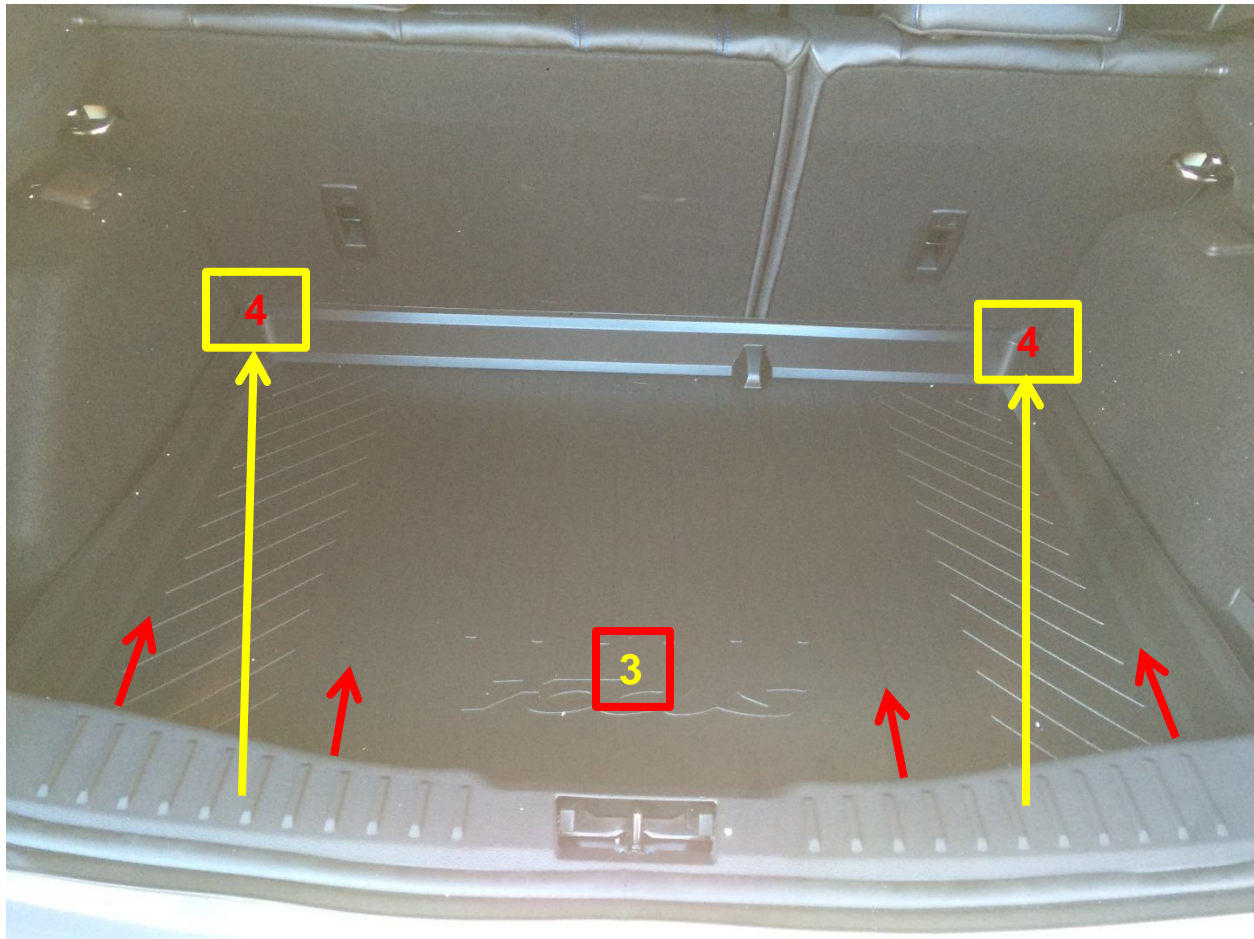

Figure 2
1. Gently pull the rear plastic trim away from the back bumper (See Figure 2) to release the 4 plastic studs (3). Pull the studs out and keep them.
2. Lift the rear trim vertically upwards out of its metal clips (4).